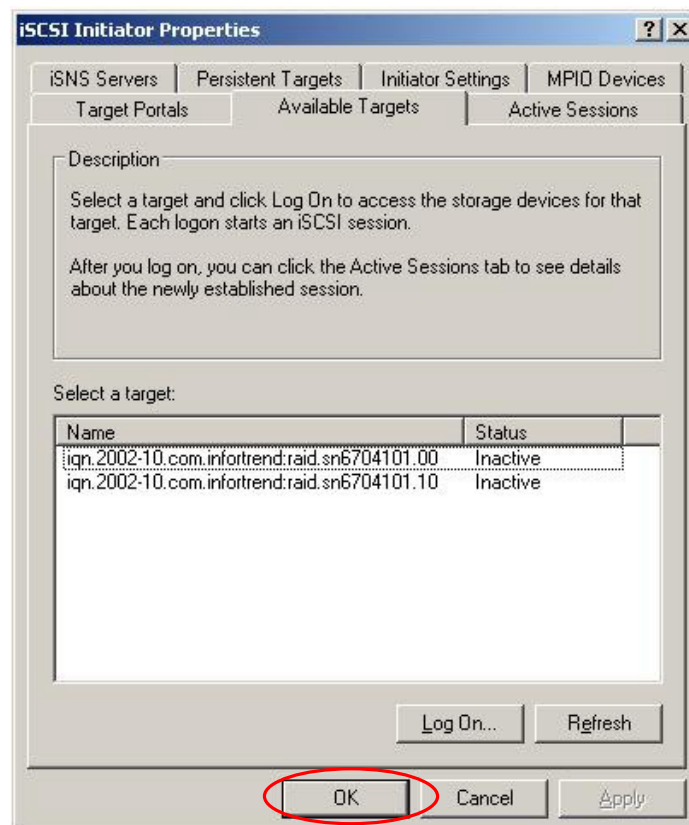

Figure A-6: Existing the iSCSI Initiator Window
-  **Step 7.** Return to the **iSCSI Initiator Properties** window. Click **OK** on the bottom of the window to exit the program, and return to the Windows desktop. (See **Figure A-6**)